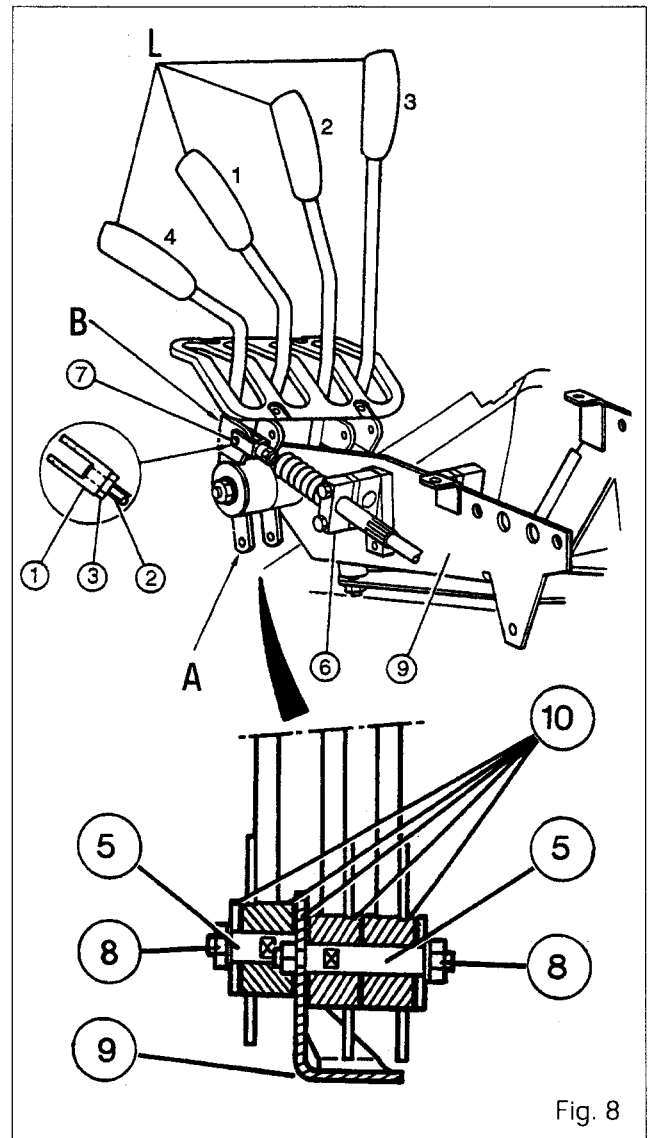

Fig. 8
**Hydraulics - Closed centre****C . Fitting and adjusting the control cables (Fig. 8)****Special points**
15. Adjust the housing so that the control lever is correctly positioned with respect to the plate **(4)** (Fig. 8).